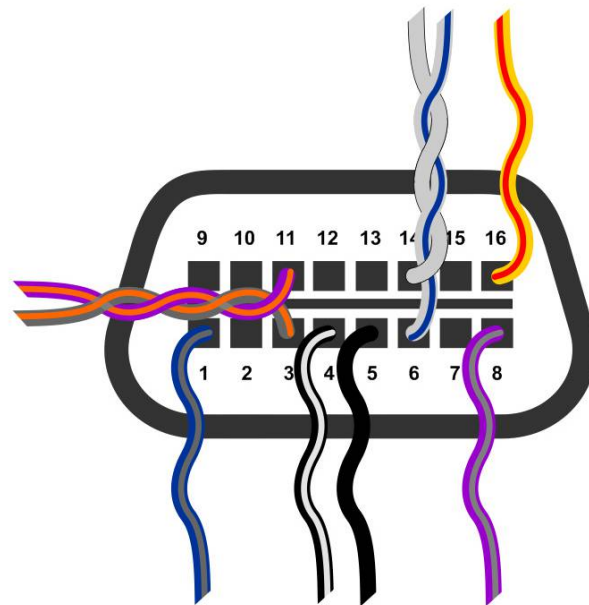

Figure 9
- Connect the module to vehicle's wiring according to the scheme at the fig.1. Connect the module to the receiver unit of remote control, according to the schemes at the figures 3-9. Make task specific connections, if necessary. The module is powered and connected to CAN-bus wires near the service connector using quick splice connectors (supplied). The backside view of the service connector presented at the fig.9.